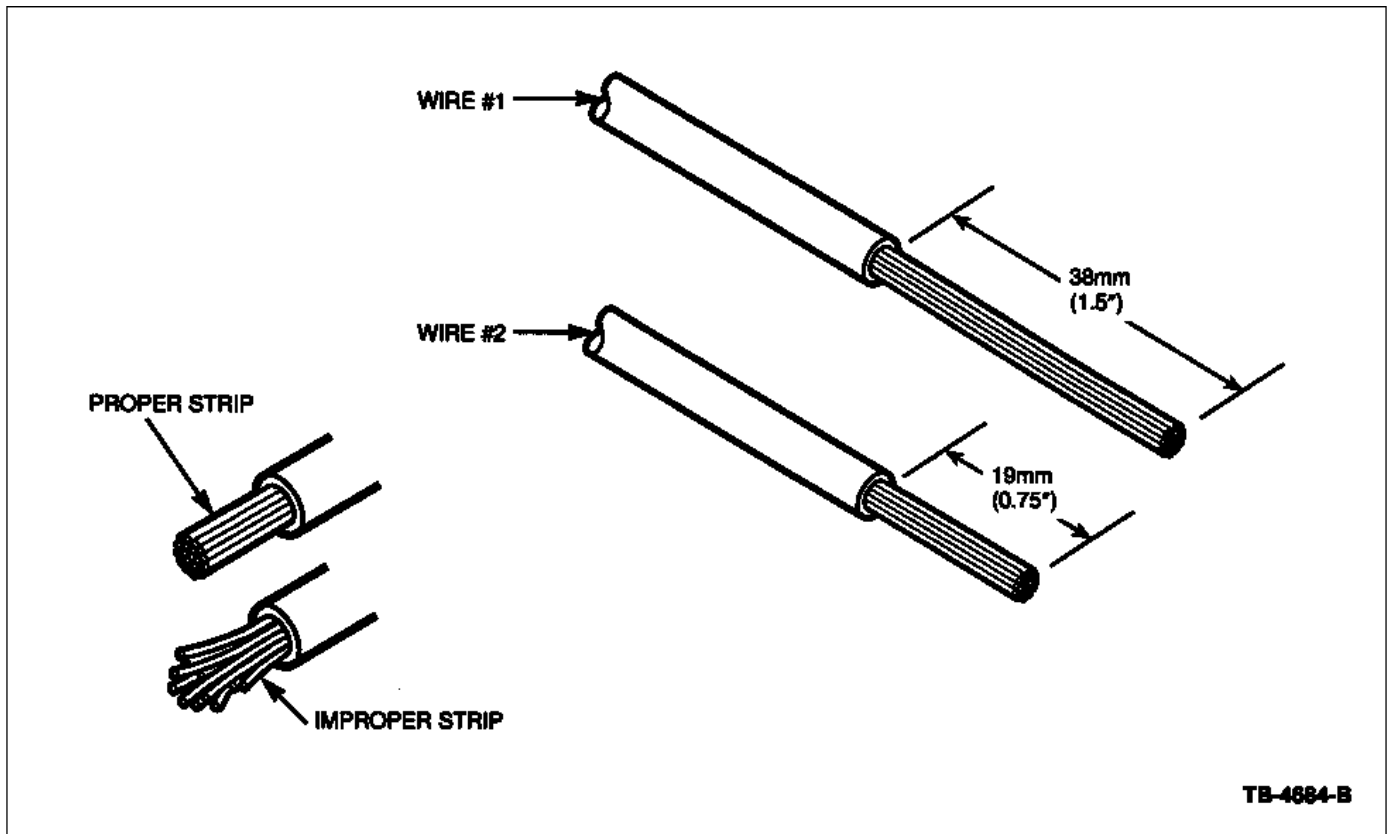

Figure 1 - Article 98-11-3
1. Strip 38mm (1.5") of insulation from Wire #1 and 19mm (0.75") of insulation from Wire #2 (Figure 1). Pull wire straight from stripper. If wire is pulled at an angle, wire strands may be cut off. If more than one (1) strand is cut off during stripping, cut off end and restrip.